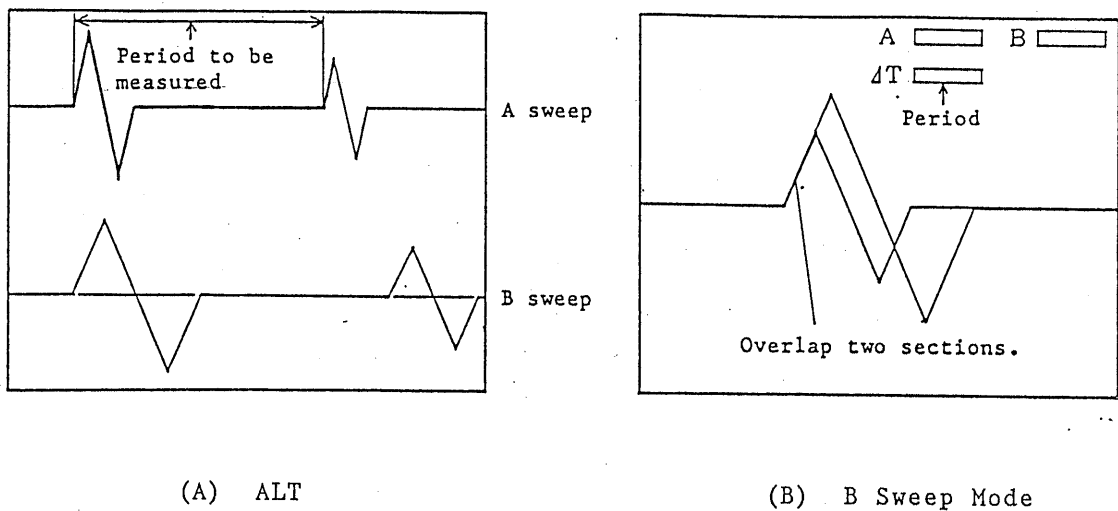

Figure 4-8. Time Interval (Period) Measurement with Delayed Sweep
- 2) Set the HORIZ MODE ③⑤ to ALT. Operate sweep in the continuous delay mode by releasing from the B TRIG mode.
- 3) Set the CURSOR SW ③① to /T. An A-sweep waveform with two intensity modulated sections and a B-sweep waveform with sections representing the same intensity-modulated sections but with delayed timings will appear on the CRT. (See Figure 4-8 A.)
- 4) With the RREADOUT control ③③, move the two intensity-modulated sections to the positions between which the time interval is to be measure. It also is possible to move the two intensity-modulated sections in a tracking mode keeping the distance between them unaltered.
- 5) Pull out the A,B TIME/DIV ①⑥ and set the B sweep time for more fine viewing of the measuring points on the delayed B sweep. Now you may set the HORIZ MODE ③⑤ to the B sweep mode so that the B-sweep waveform alone is displayed. When in the B sweep mode, you may employ the  $\times 10$  MAG function.
- 6) By adjusting the READOUT control ③③, overlap the two measuring points on the B sweep waveform. (See Figure 4-8 B.)